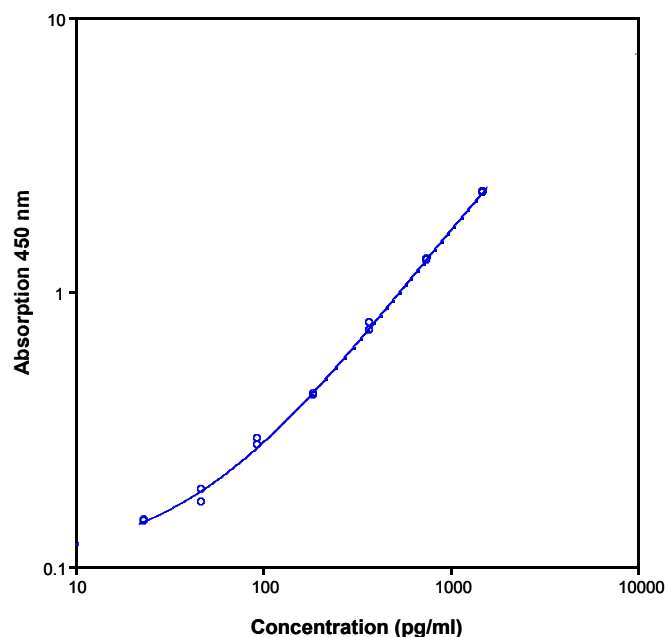

Fig. 8 Representative standard curve for human TNF  $\alpha$  total ELISA. Human TNF  $\alpha$  was diluted in serial 2-fold steps in Sample Diluent.
7. A representative standard curve is shown in Figure 8.